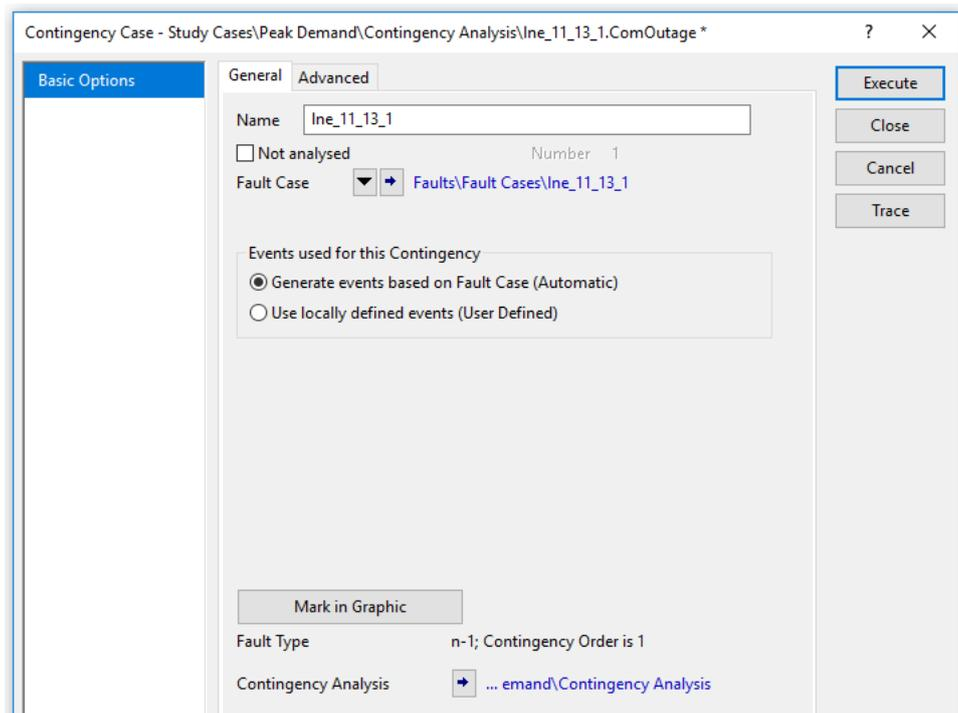

Figure 26.4.4: Contingency Cases (*ComOutage* objects for Multiple Time Phase)
- **Events Used for this Contingency** As shown in figure 26.4.4, the user can specify whether to generate the events based on the fault case definition (automatically), or to use locally defined events. If the user chooses to use locally defined events, then the *ComOutage* object which defines the contingency (located in contingency command of the study case) can be modified independently.